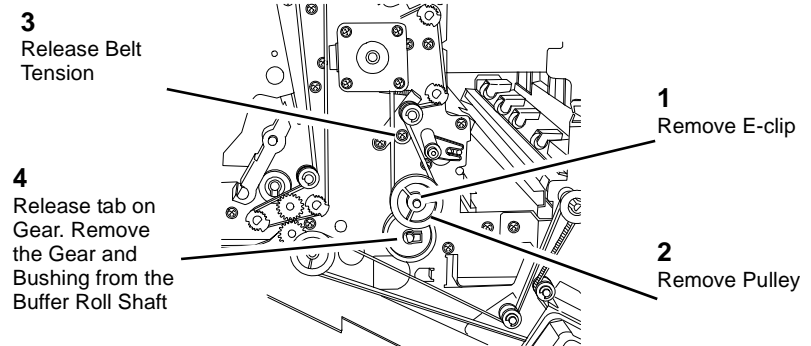

Figure 4 Removing Pulley and Gear
- 7. Remove Pulley and Gear (Figure 4).